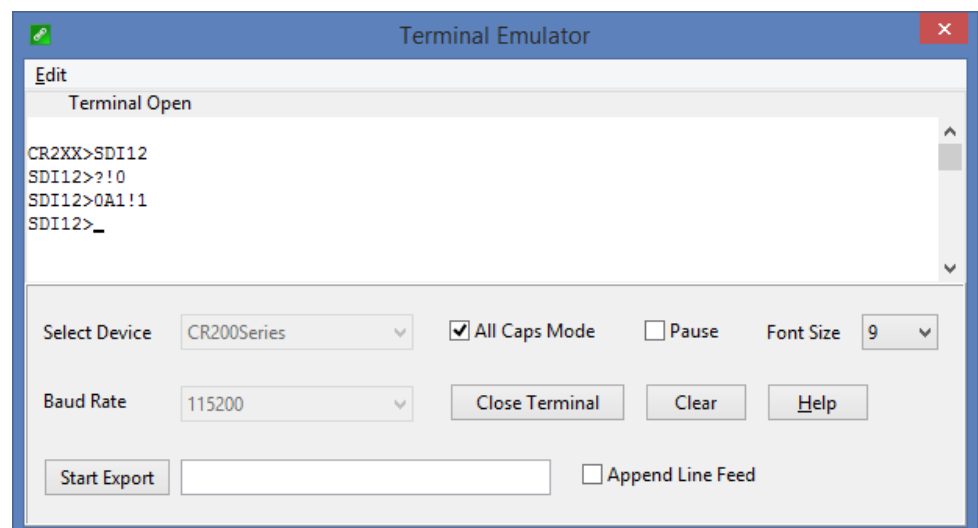

Figure D-2. CR200(X) example of using the SDI-12 transparent mode to change the SDI-12 address from 0 to 1
D.10.2 Changing an SDI-12 address — CR200(X) Series
10. To change the SDI-12 address, type **aAb!**, where **a** is the current address from the above step and **b** is the new address (see Figure D-2). Press Enter. The sensor changes its address and responds with the new address.